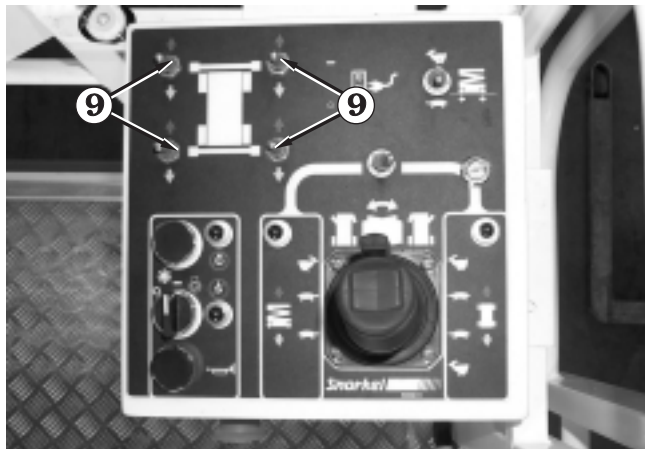

Figure 8.26
- Push and hold the **Outrigger** switches ⑨ forward until all the outriggers are completely up (see Figure 8.26).